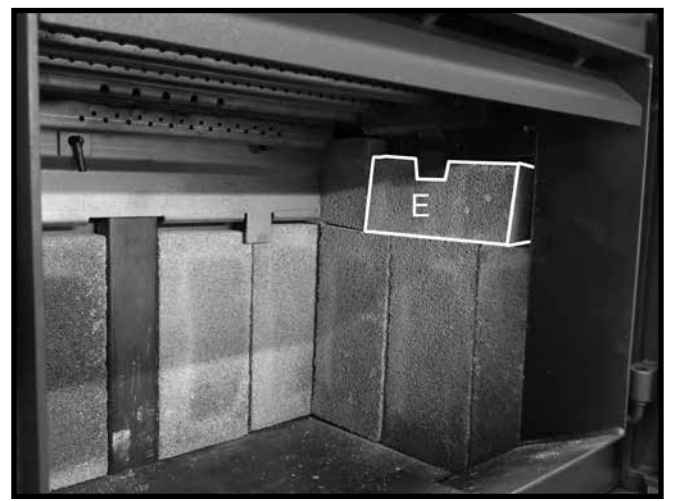

Figure 21: Final side wall firebrick in position.
4. Slide an "E" firebrick under the side wall brick rail tab and rest on top of the three previously placed side wall firebricks (Figure 21). Repeat steps 2-4 on the other side (Figure 21).